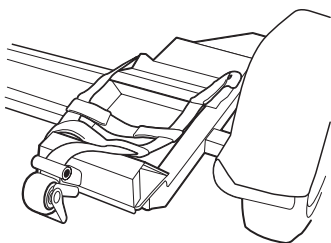

Fig. 12
- Place the end of the tire strap through the spool, then tighten the tire strap as far as the ratchet allows. (Fig. 12)